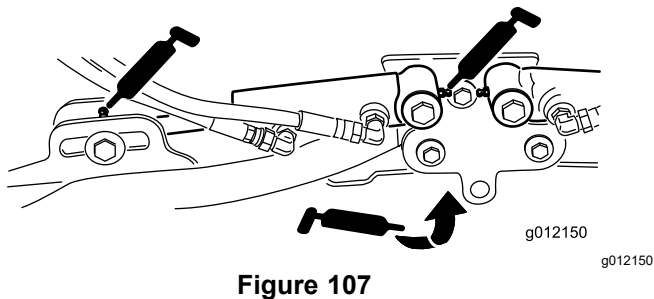

Figure 107
- Cutting-unit lift-arm cylinders (2 each) (Figure 107)
- Lift-arm pivots (1 each) (Figure 107)